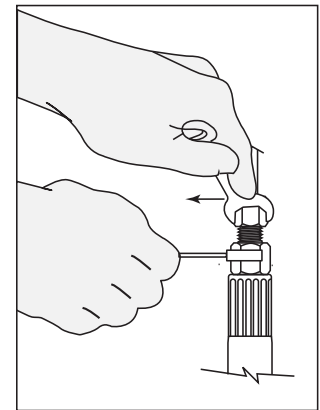

Fig. 16b
16.2 At the end of the water hammer absorber, connect the water supply tube, using the same type of fitting used on the water supply valve. Tighten the compression nut, without stripping, with two wrenches, one to hold the water hammer end, and one to turn the compression nut. Keep the supply valve closed for now, you will open it during the start-up procedure. Please see Fig. 16b.